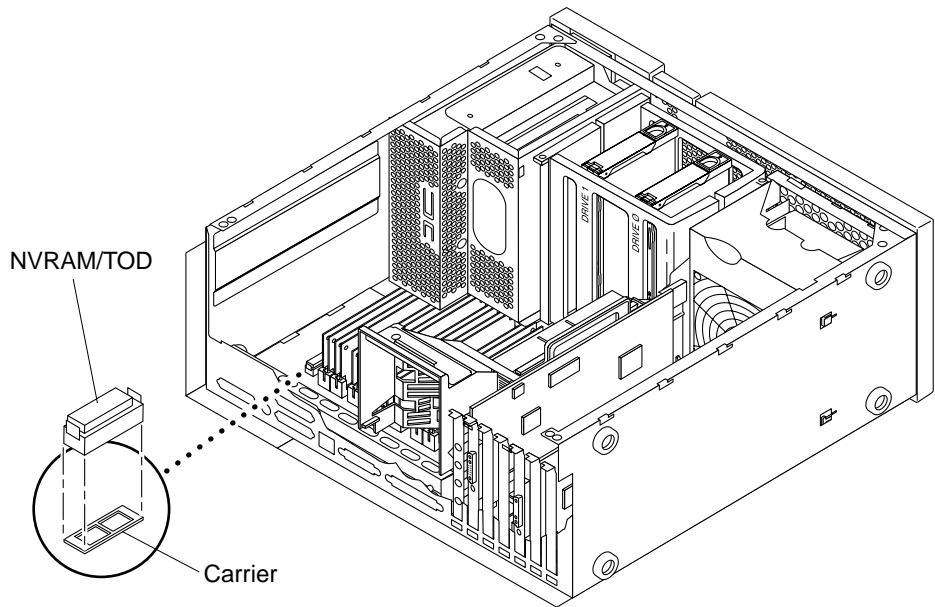

FIGURE 10-2 Removing and Replacing the NVRAM/TOD
5. Remove the NVRAM/TOD as follows (FIGURE 10-2):
1. Replace the NVRAM/TOD as follows (FIGURE 10-2):